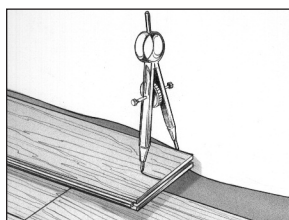

Fig. 5
1. Use dividers or a spacer turned sideways 1" (2.54 cm) wide to mark the contour (Fig. 5).